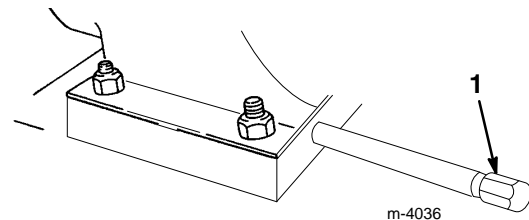

Figure 20
2. Clean the area around the oil drain plug (Fig. 20).
3. Slide the oil drain pan below the drain extension and remove the oil drain plug (Fig. 20).